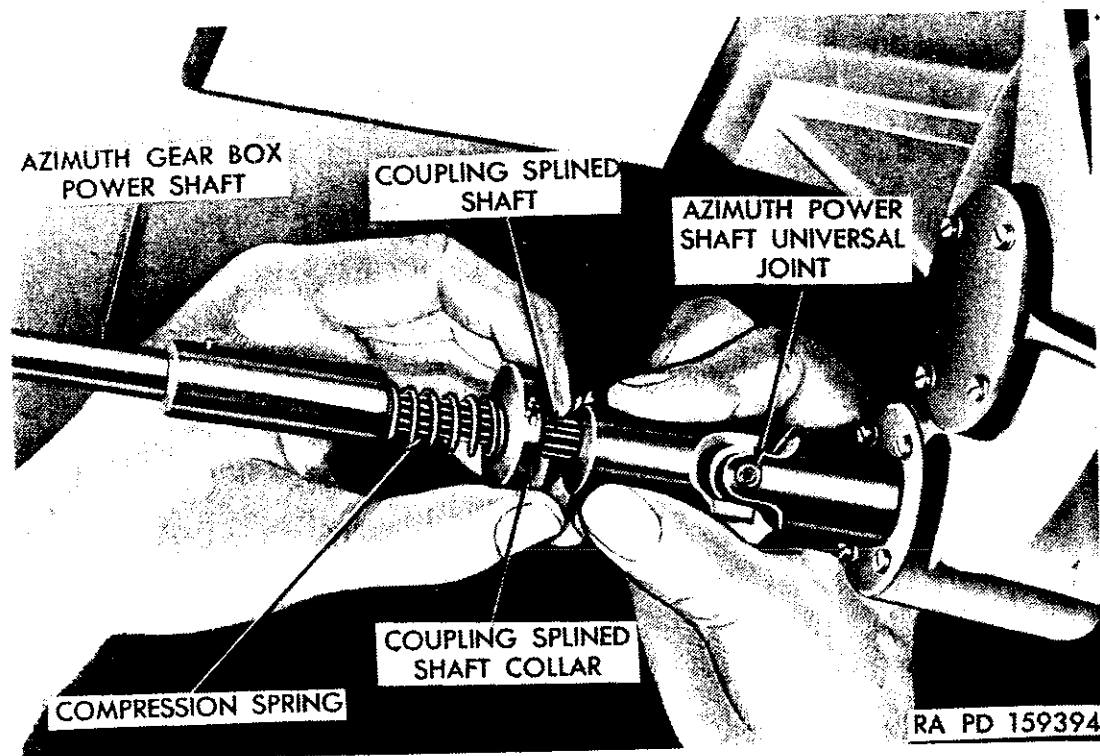

Figure 64. Disengaging coupling splined shaft.
- (2) Remove access door (fig. 58) by turning wing nuts one-half turn. Disengage the azimuth pinion shaft from the azimuth gear box by pulling the coupling splined shaft collar (fig. 64) back against the compression spring around the coupling splined shaft. This permits the mount to be positioned by hand.